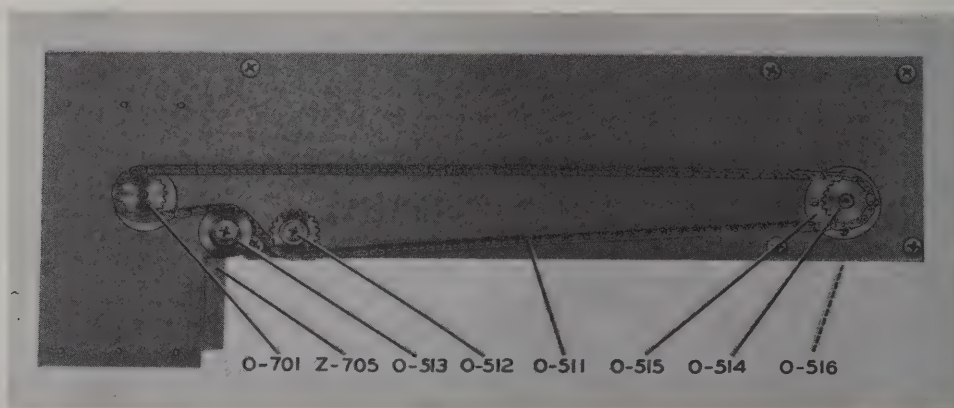

Figure 17. IPA Coupling Network Drive and Chain.
- (d) Mount the motor-and-lead-screw assembly (fig. 17) at the rear of the cabinet. Remove the drive chain from this unit, and lay it aside. When the assembly has been properly secured, thread the lead screw into the floating bearing on the antenna rack, and turning the lead screw by hand, operate it until the antenna platform is at its extreme rear position.